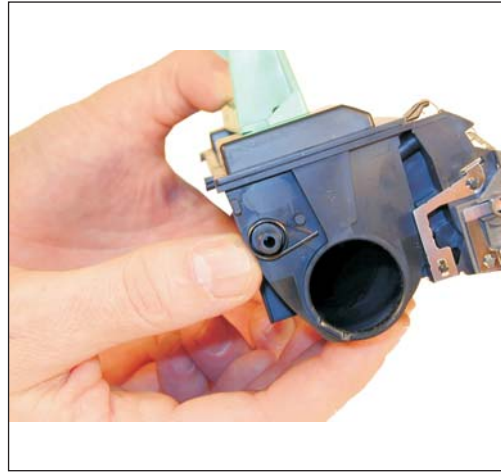

Figure 22
15) Set the drum cover spring onto the shaft as shown. See Figure 22